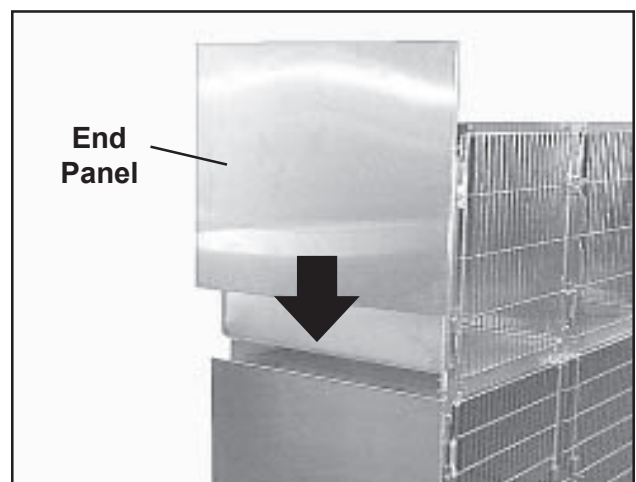

Figure 41. Sliding End Panel Onto Cage
3. Slide panel down until bottom of panel is even with bottom of cage (Figure 41). On higher tiers, panels should go down until they meet the end panel of the next lower tier.